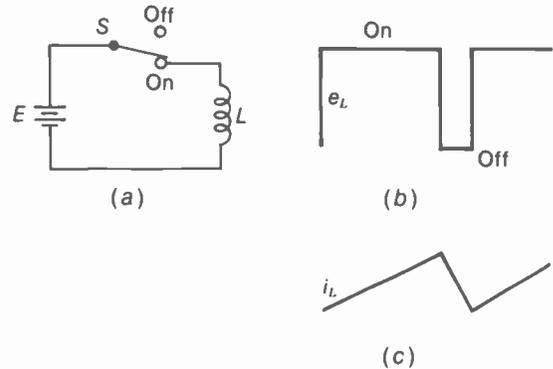

FIGURE 22-25 PRODUCING SAWTOOTH CURRENT IN INDUCTANCE  $L$ . (a) BATTERY  $E$  WITH SWITCH  $S$ ; (b) EQUIVALENT RECTANGULAR VOLTAGE; (c) SAWTOOTH CURRENT.
11. A transistor or SCR in the horizontal output stage serves as a switch to supply rectangular voltage for sawtooth current in the inductance of the scanning coils. See Fig. 22-25.